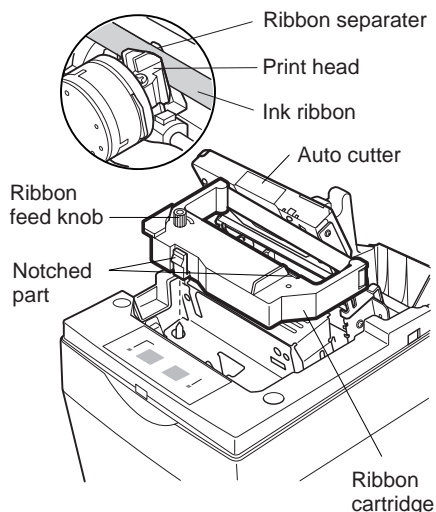
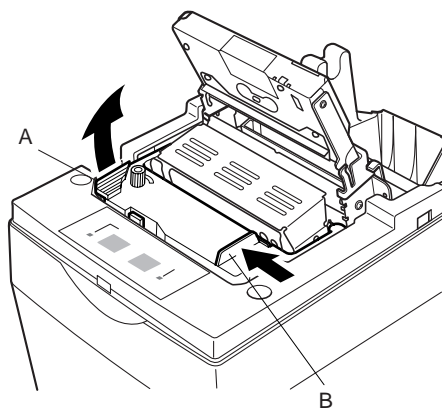

Fig. 6-10 Loading the ribbon cartridge
Fig. 6-11 Removing the ribbon cartridge
- ④ Place the ribbon cartridge in the direction shown in Fig. 6-10 and press it down to load it. If loading of the ribbon cartridge is not satisfactory, press down the cartridge while rotating the ribbon feed knob in the direction of the arrow.
- ⑤ Turn the ribbon feed knob of the ribbon cartridge in the direction of the arrow to remove slack in the ribbon.
- ⑥ Close the Auto Cutter.
- ⑦ Mount the cover by reversing the procedure outlined in step ② above.
- ⑧ When removing the ribbon cartridge, raise the A section and then remove it by holding the B section as shown in Fig. 6-11.